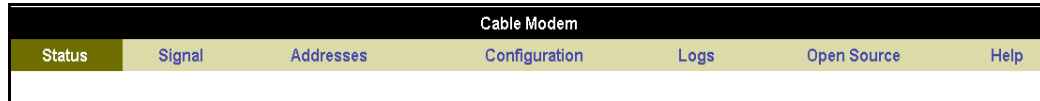

Figure 7: SB6141 Web Manager Buttons
- The buttons are displayed along the top of the SB6141 Web Manager screen (see Figure 7). To display a specific web manager screen, click the button.